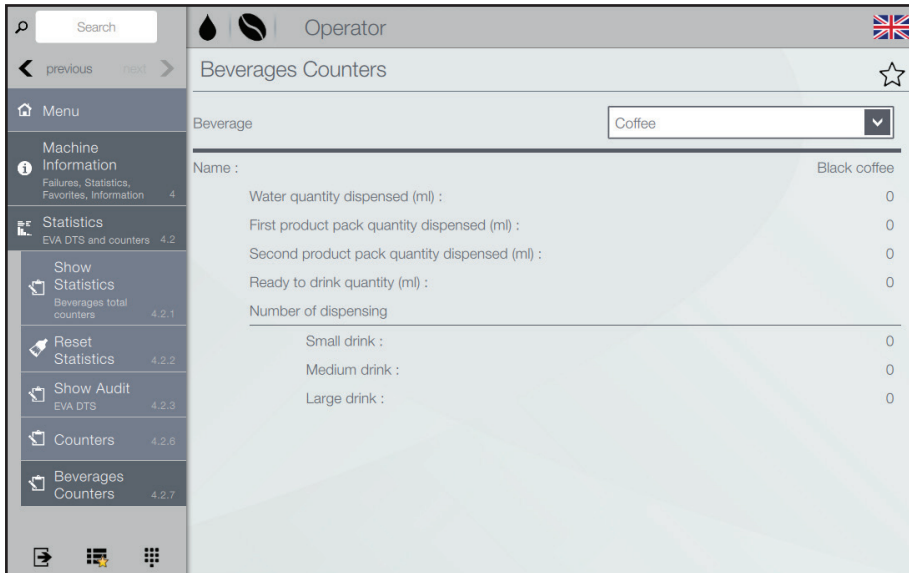

Fig. 6.15- Drink Counters
- Tap on menu items 4 > 4.2 > 4.2.7
- Tap on the pull down menu “Beverage” to select the requested drink (fig. 6.15).